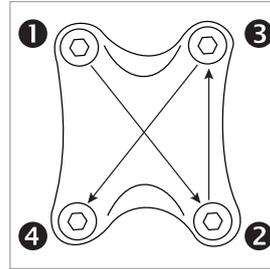

Figure 1
5. Set the torque wrench to the manufacturer’s specifications. If no torque ratings are provided, set the torque wrench to 4–5 Nm. Attach the correct hex-bit socket and tighten the faceplate bolts in half-turn increments using the following four-bolt tightening pattern (Fig. 1).